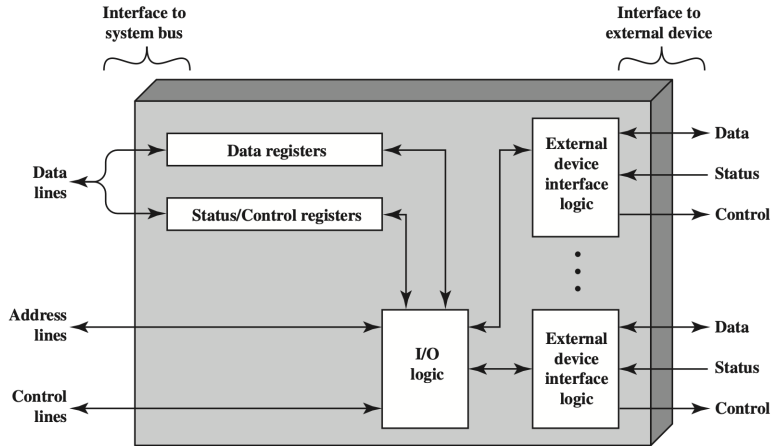

Figure 7.3 Block Diagram of an I/O Module
- CPU controls the operation of the I/O devices by writing/reading the data registers and status/control registers. (fig 7.3)